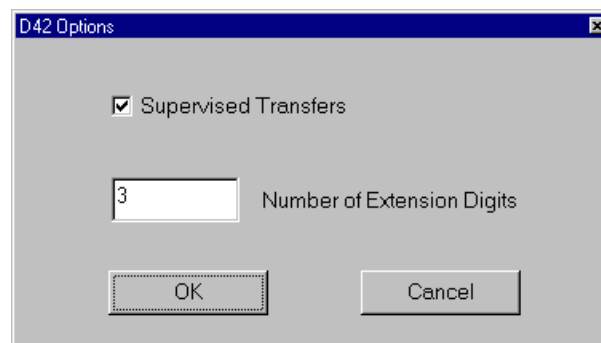

Figure 19. D42 Options Window
4. From the **Options** menu, choose **Properties**. The *D42 Options* window is displayed, as shown in *Figure 19*.